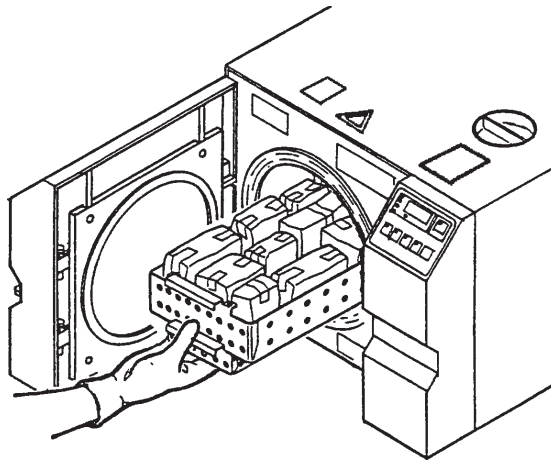

**Figure 3-15**
2. Carefully insert trays into the sterilizing chamber (Figure 3-15).